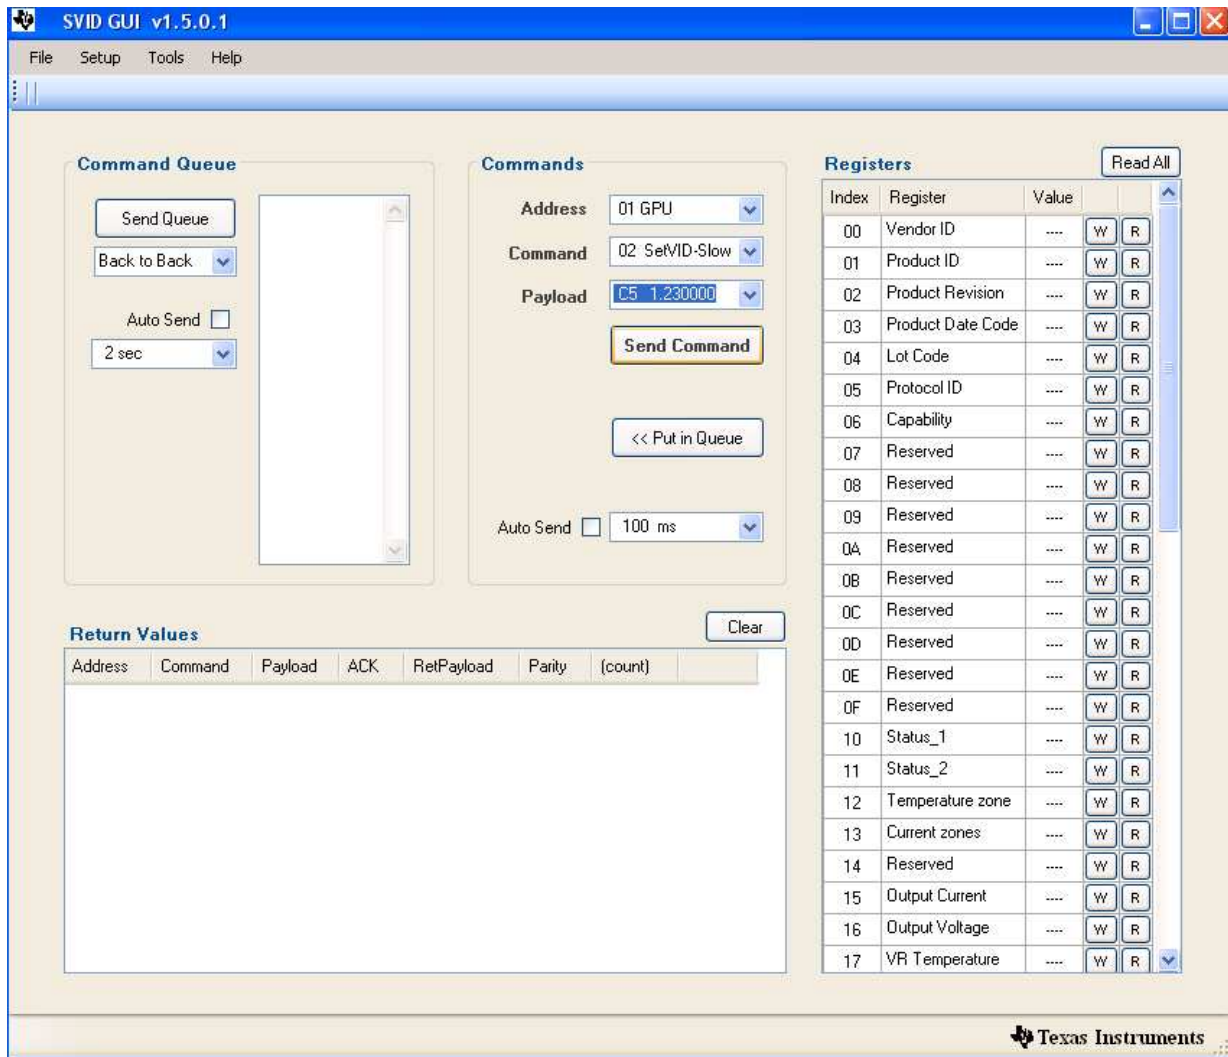

Figure 19. TPS59640EVM-751 GPU GUI Setup Window
5. Click *send Command*, and GPU GPOOD LED lights up. See the GUI window shown Figure 19.